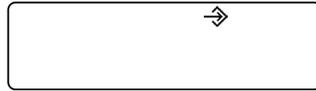

Figure 4.1 MAX IP Response Point LCD Program icon
1. Press and hold the **REDIAL/PROG** key until the Program icon appears on the LCD screen (see figure 4.1)
Press and hold the **REDIAL/PROG** key until the Program icon appears on the LCD screen (see figure 4.1).
1. Press and hold the **REDIAL/PROG** key until the Program icon appears on the LCD screen (see figure 4.1).
1. Press and hold **REDIAL/PROG** until the Program icon will appear on the LCD screen (see figure 4.1).
1. Press and hold the **REDIAL/PROG** key until the Program icon will appear on the LCD screen (see figure 4.1).